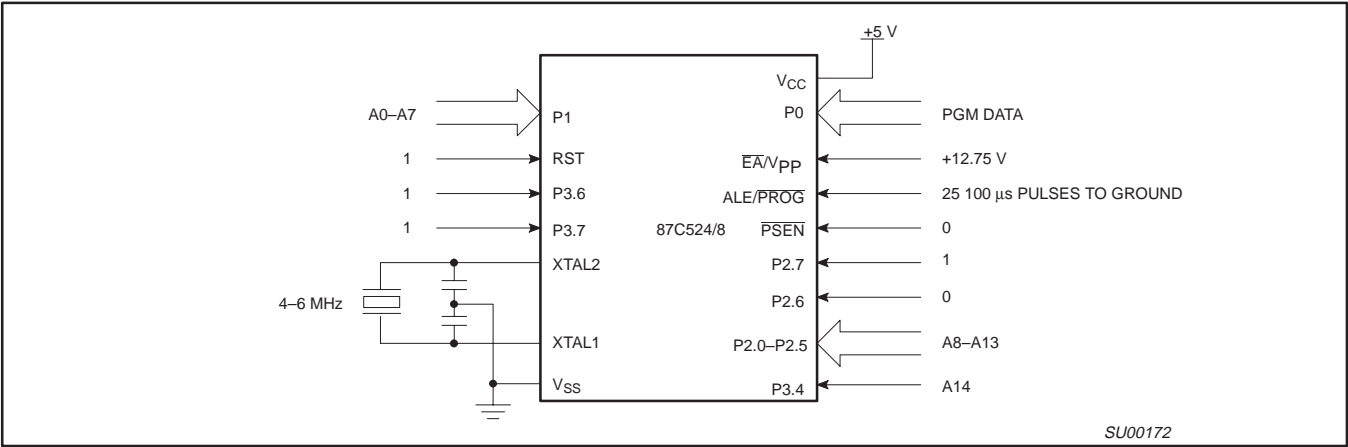
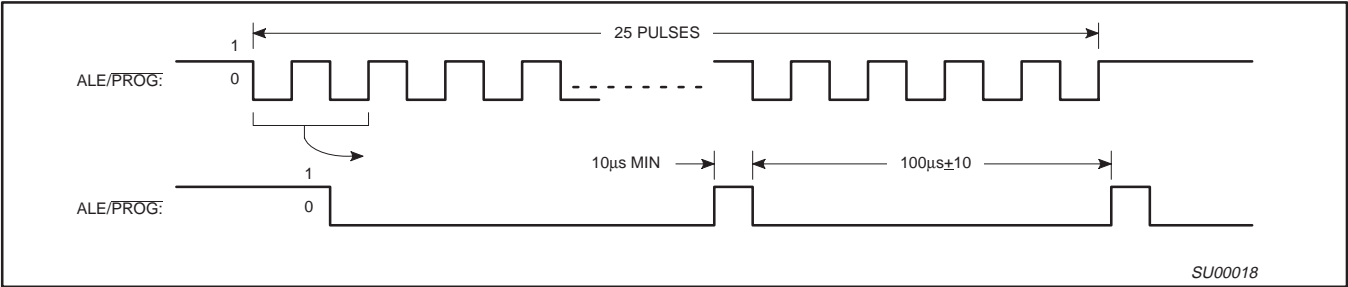
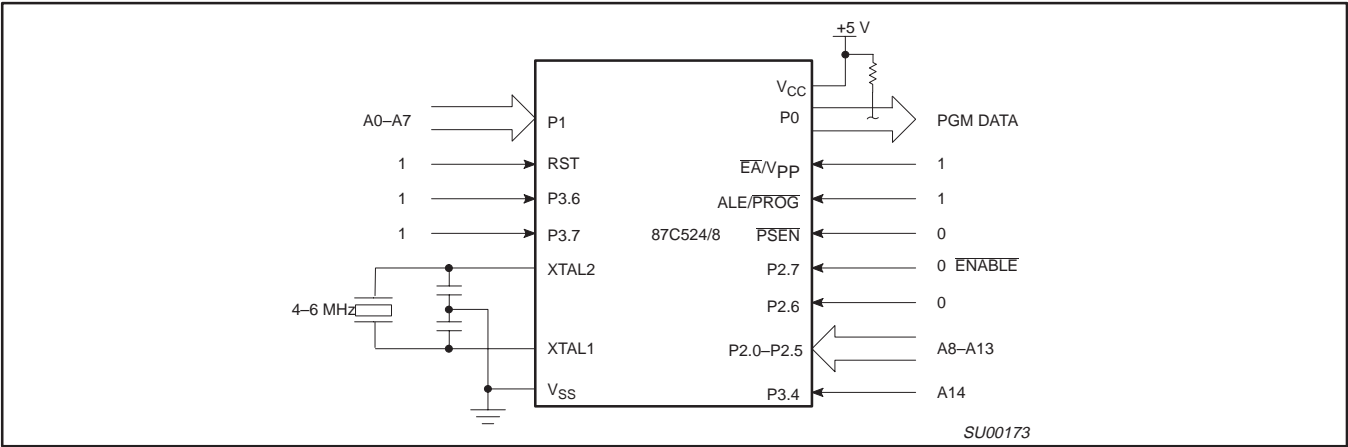

Figure 14. Programming Configuration
Figure 15. PROG Waveform
Figure 16. Program Verification
Table 6 shows the logic levels for reading the signature byte, and for programming the program memory, the encryption table, and the lock bits. The circuit configuration and waveforms for quick-pulse programming are shown in Figures 14 and 15. Figure 16 shows the circuit configuration for normal program memory verification.
The setup for microcontroller quick-pulse programming is shown in Figure 14. Note that the 87C528 is running with a 4 to 6MHz oscillator. The reason the oscillator needs to be running is that the device is executing internal address and program data transfers.
The address of the EPROM location to be programmed is applied to ports 1, 2 and 3, as shown in Figure 14. The code byte to be programmed into that location is applied to port 0. RST, \overline{PSEN} and pins of ports 2 and 3 specified in Table 6 are held at the 'Program Code Data' levels indicated in Table 6. The ALE/PROG is pulsed low 25 times as shown in Figure 15.
If lock bit 2 has not been programmed, the on-chip program memory can be read out for program verification. The address of the program memory locations to be read is applied to ports 1, 2 and 3 as shown in Figure 16. The other pins are held at the 'Verify Code Data' levels indicated in Table 6. The contents of the address location will be emitted on port 0. External pull ups are required on port 0 for this operation.
The setup for microcontroller quick-pulse programming is shown in Figure 14. Note that the 87C524 is running with a 4 to 6 MHz oscillator. The reason the oscillator needs to be running is that the device is executing internal address and program data transfers.
in Figure 16. The other pins are held at the 'Verify Code Data' levels indicated in Table 6. The contents of the address location will be emitted on port 0. External pull-ups are required on port 0 for this operation.
- * FOR PROGRAMMING VERIFICATION SEE FIGURE 14.
- FOR VERIFICATION CONDITIONS SEE FIGURE 16.